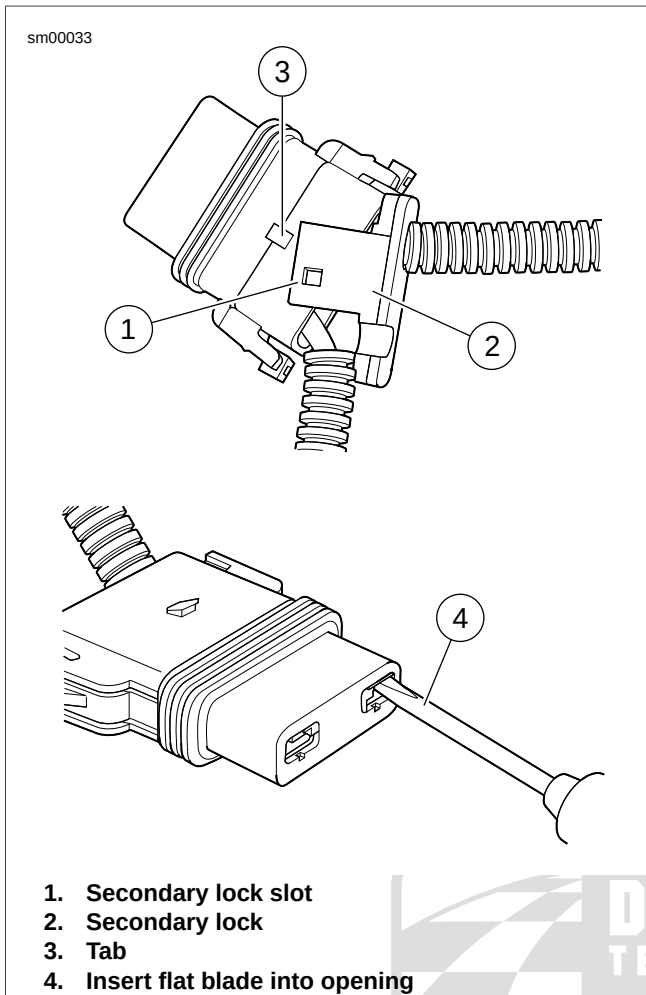

Figure A-13. Delphi Main Fuse Housing: Remove Socket Terminals
2. See Figure A-13. Disengage slots (1) on secondary lock (2) from tabs (3) and remove secondary lock.
3. Insert flat blade of pick or small screwdriver into opening (4) until it stops.